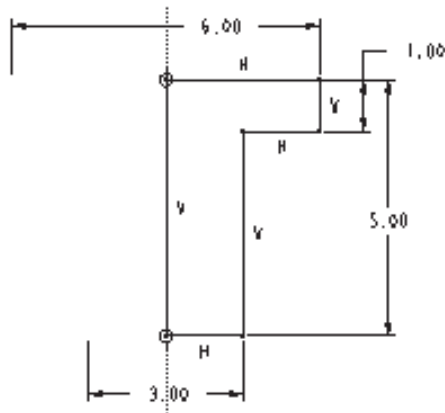

Figure 7-41 Sketch with dimensions and constraints for the counterbore hole
2. Choose the **Sketched** radio button from the **Hole Type** area in the **HOLE** dialog box. The system takes you to the sketcher environment; sketch the section for the counterbore hole as shown in Figure 7-41. Sketch a center line, apply constraints, and diametrically dimension the entities.